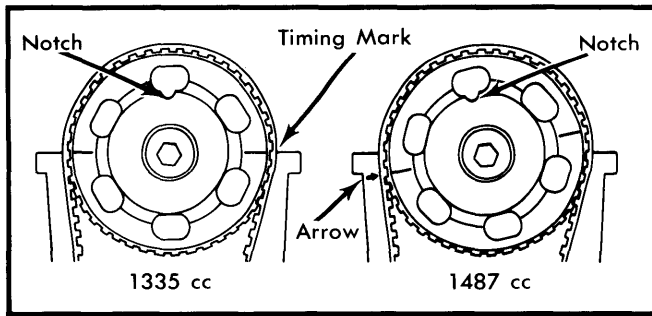

Fig. 5 Camshaft Alignment Marks (1335 & 1487 cc Engines)
2) On 1335 cc engines, cutaway in camshaft gear should be at top, and timing marks aligned with valve cover surface. On 1487 cc engines, cutaway should be at top and timing mark aligned with arrow on cylinder head. See Fig. 5. Slide timing belt on without disturbing pulley positions and adjust belt tension.